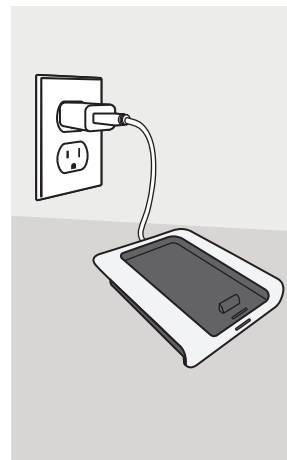

Figure 4
- a. Connect the charger to the power adapter with the micro-USB cable and plug it into an electrical outlet (see Figure 4).